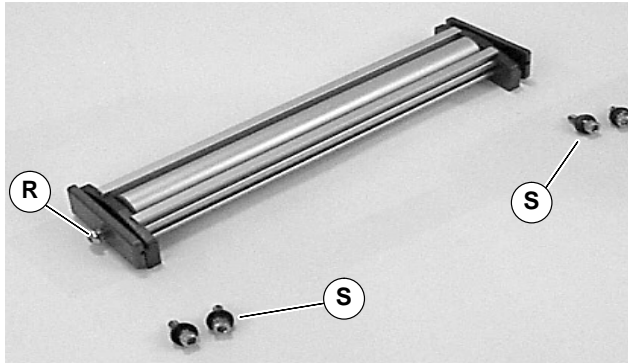

Figure 11
**NOTE:** Roller guides (U) are shipped attached to one bracket assembly (T). DO NOT attach guards to other bracket assembly.
2. Assemble components (Figure 11). Loosen, do not remove, bracket screws (R). Remove mounting screws and washers (S).